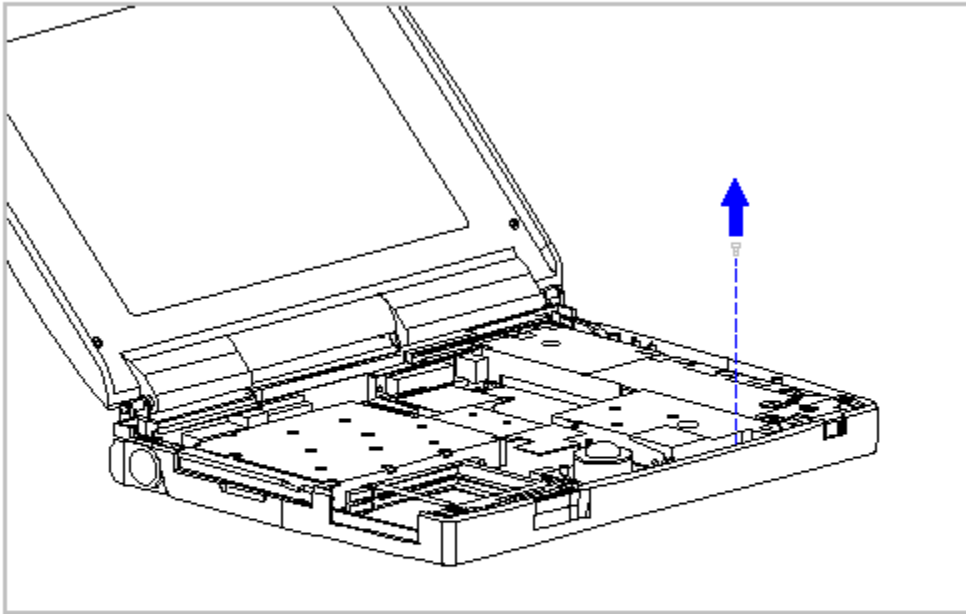

Figure 5-29. Removing the Screw Connecting the Hard Drive Bracket to the System Chassis
3. Remove the screw that secures the hard drive bracket to the system chassis (Figure 5-29)